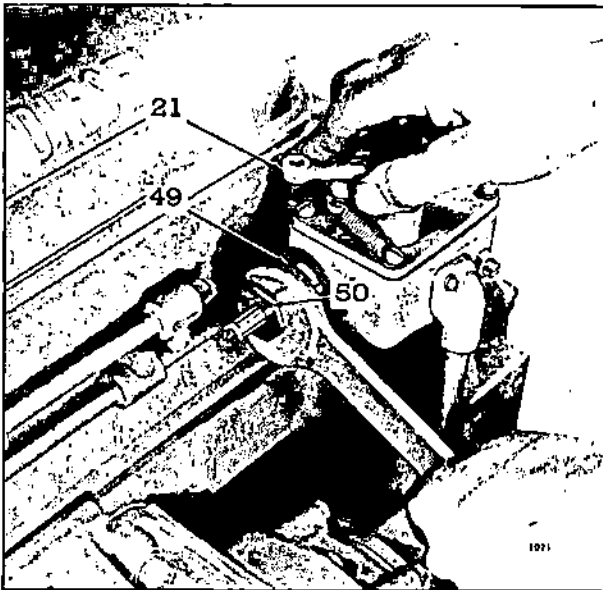

Fig. 8 - Adjusting Maximum No-Load Speed
1. Loosen the lock nut (49) Fig. 8, and back off the high speed spring retainer (50) approximately five turns.